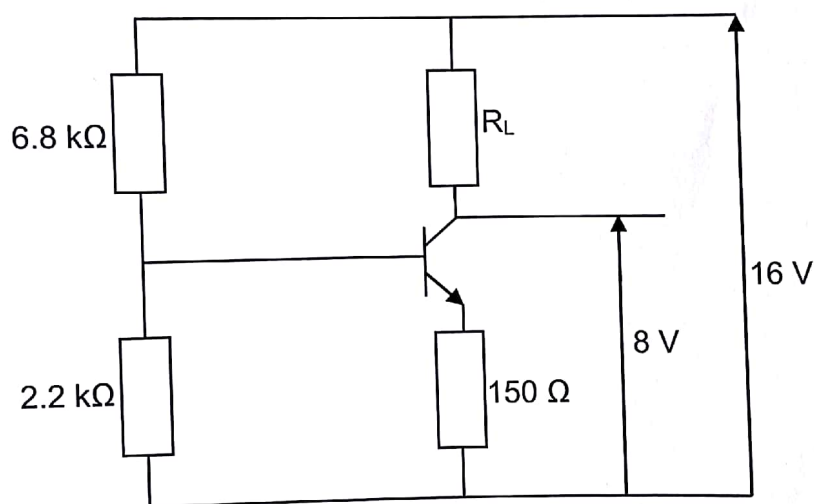

Fig Q9
9. Fig Q9 shows a single-transistor amplifier. The voltage between the transistor base and emitter is 0.6 V and the d.c. voltage at the output terminals is 8 V.
- (i) the voltage between the collector and the emitter of the transistor; (4)
- (ii) the power dissipated in the emitter resistor; (3)
- (iii) the power dissipated in the transistor. (3)
- (b) Sketch the circuit shown in Fig Q9 to show the additional components needed to make the circuit suitable for amplifying a.c. signals. (3)
- (c) State the purpose of the additional components shown in Q9(b). (3)